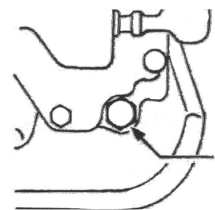

Figure 1
5. Remove the oil plug in the exciter base and check the oil level. Make sure the Paver Roller is level when checking. The oil level should be up to the oil plug. Every month or every 200 hours of operation, replace the oil. Oil capacity is 150ml (Fig.1)